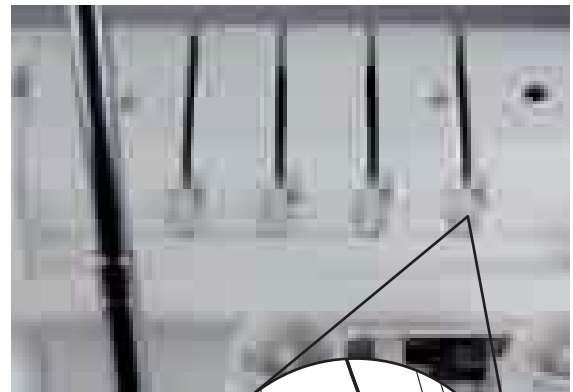

Fig. 30
1. Guide the yarn from back to front through the thread tree **1** (1).
2. Thread the yarn into the thread guide in that you pull the thread down until it slips under the thread guide (2) (Fig. 30).